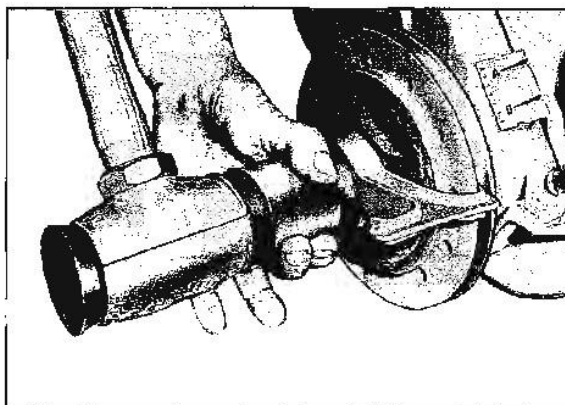
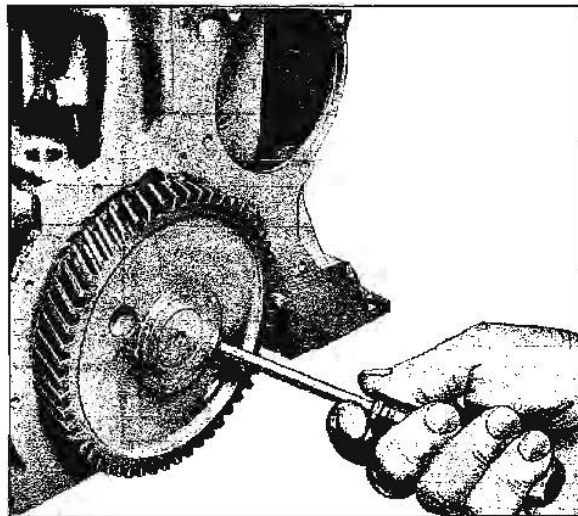

Fig. 6-37 Installing Harmonic Balancer
Fig. 6-41 Removing Camshaft Thrust Plate Screws
2. Attach balancer installer tool J-8792 (Fig. 6-41) to balancer (Fig. 6-37).
3. Position balancer on crankshaft and drive into position until it bottoms against crankshaft gear. Remove installer tool (Fig. 6-37).
9. Remove the two camshaft thrust plate screws by working through holes in the camshaft gear (Fig. 6-41).